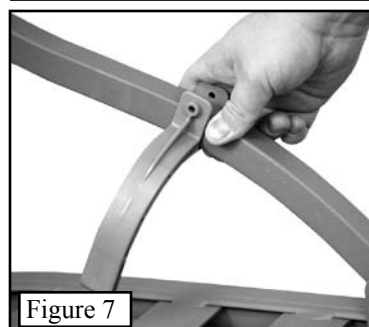
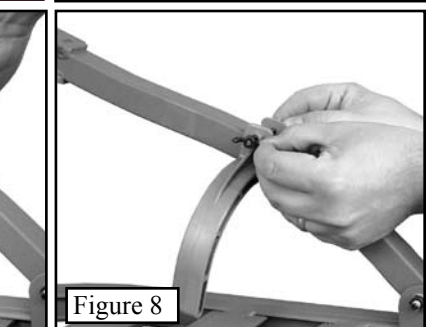
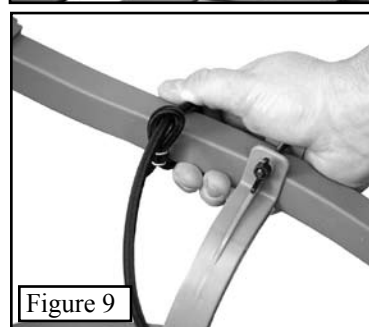
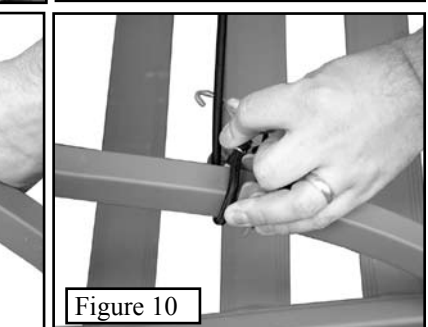

Figure 7
Figure 8
Figure 9
Figure 10
RapidClimb Stirrups. The two (2) RapidClimb stirrups fit on the curved upright arms of the platform. Simply slide one stirrup on each side of the platform so that they are on the inside of the platform and facing down as shown in **Figure 7**. Once positioned, secure with the bolt and wing nut provided as show in **Figure 8**. Occasional readjustment may be required as your footwear needs change. Wrap the supplied bungee cord around one side of the curved platform upright bars and push the S-hook through the loop as shown in **Figure 9**. Hook the S-hook around the opposite curved platform upright bar and back onto itself as shown in **Figure 10**.